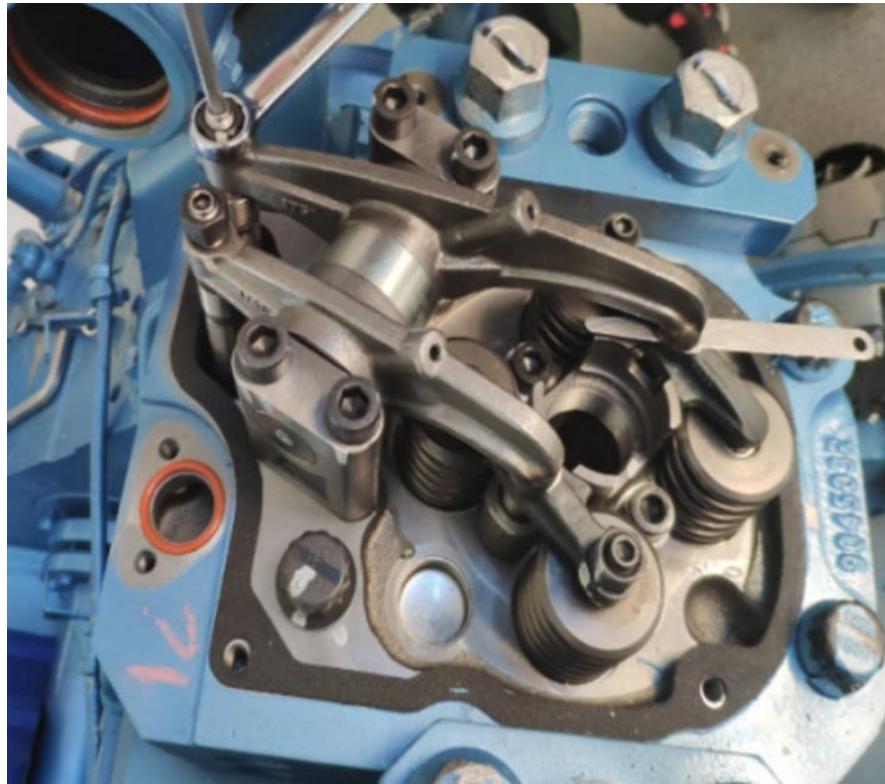

Figure 74.
- 4. Use a feeler gauge to check the clearance between the rocker arm and the valve bridge (Figure 74). Lash should be set to 0.21” (0.55 mm) for the intake and 0.39” (1.00 mm) for the exhaust. Repeat on all other valves with the appropriate valves. (Reference figure 74). If lash needs to be adjusted, loosen nut and adjust to the specs listed, and tighten the nuts with torque spanner to 20±5 N·m, pull out the gauge (make sure the gauge can be easily pulled out), and re-check the clearance with a appropriate feeler gauge (make sure the gauge cannot get through), adjusting of valve is finished.